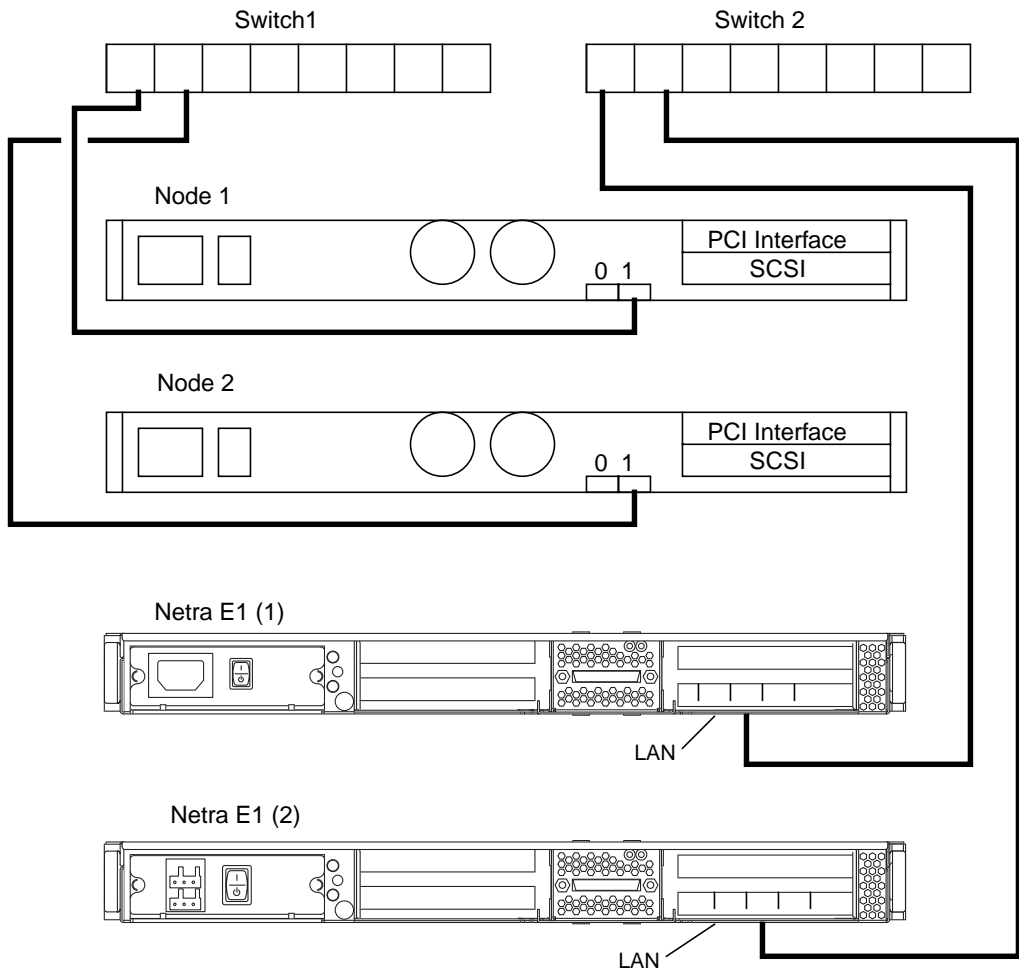

FIGURE D-3 Example of Ethernet cabling for an Mirrored Pair Using E1 Expanders
2. Connect the Ethernet cables between the host enclosures, Netra E1 PCI expanders, and Ethernet switches, as shown in FIGURE D-3.